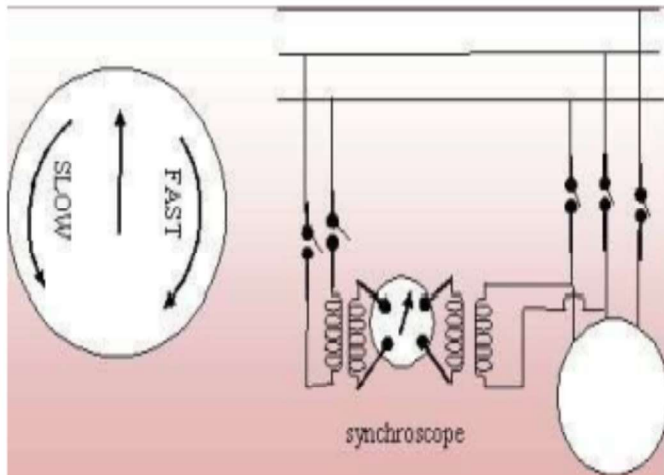

Fig. 3 Synchronizing by Synchroscope
1. Connect the circuit as given in Fig. 3.